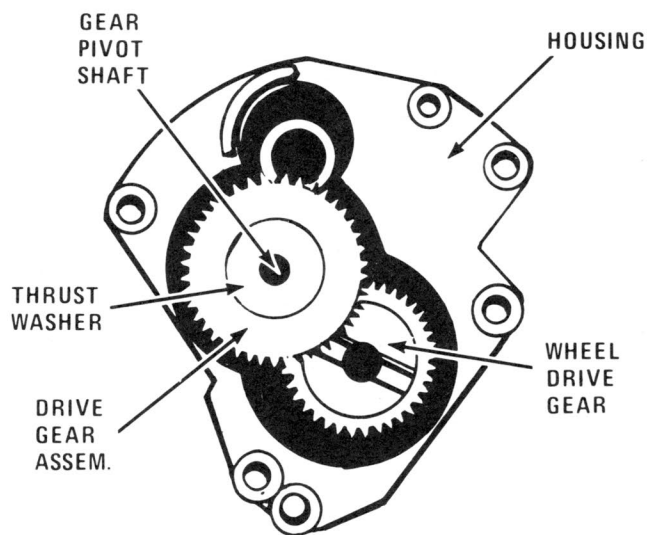

Fig. 11
- e. Remove and inspect gears (Fig 11).